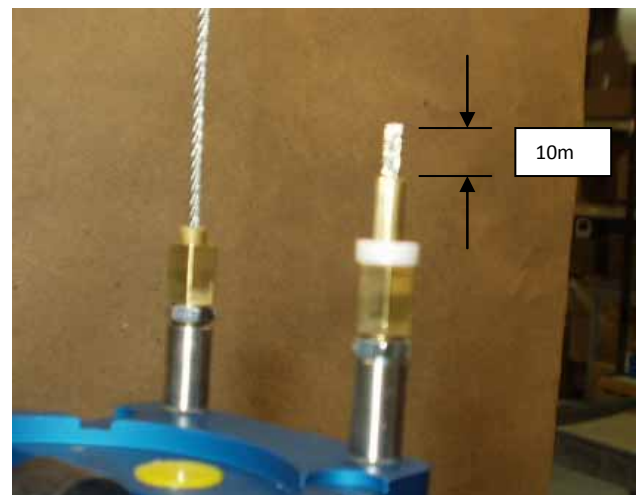

Figure 60 - Cut Cables above Ferrules
24. Cut ends of all four cables approx. 10mm above ferrules (Figure 60).